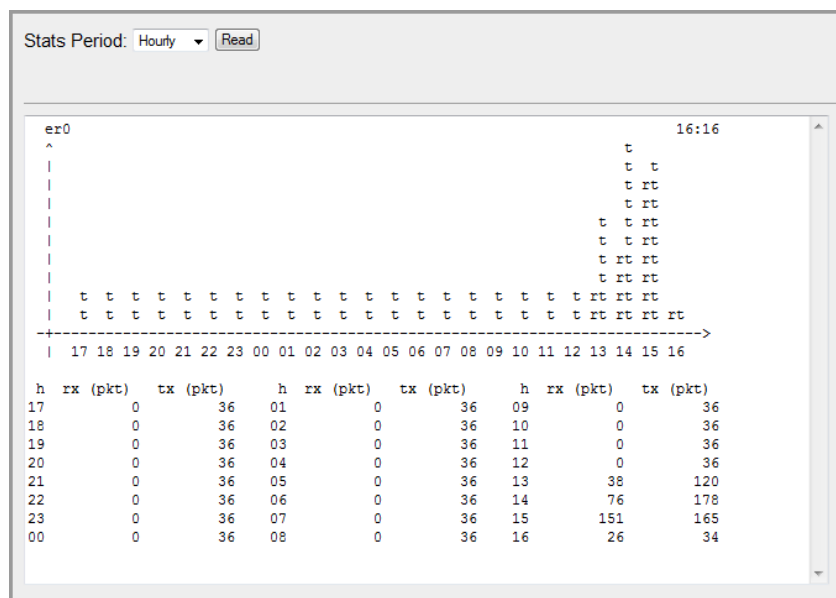

Figure 98 Hourly Statistics
- **Hourly**— This option displays a graph showing overall transmit (t) and receive (r) data on an hourly scale in accordance with the module Date and time stamp. The letters “rt” indicate both transmit and receive. The table below the graph shows the average data throughput (in packets) for transmit and receive for each hour. See Figure 98.